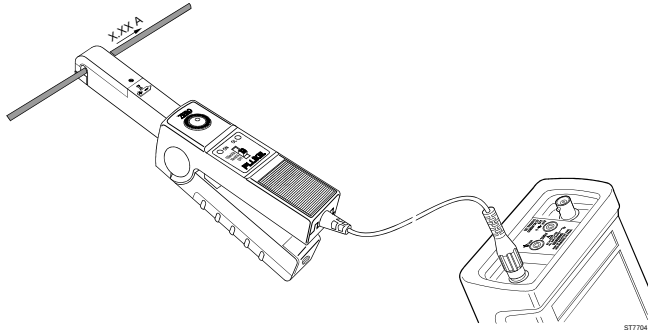

Figure 4. Measuring Setup
2. On the Current Probe, select the least sensitive range (10 mV/A). Ensure that the green ON-indicator lights. See Figure 4 for selector switch and green On indicator locations.
3. On the Current Probe, rotate the ZERO thumbwheel to adjust the probe reading to zero. See Figure 4 for the ZERO rotary knob location.
- At completion, be sure to set the range selection switch to OFF again. A measuring setup using the Current Probe and a ScopeMeter test tool is shown in Figure 4.